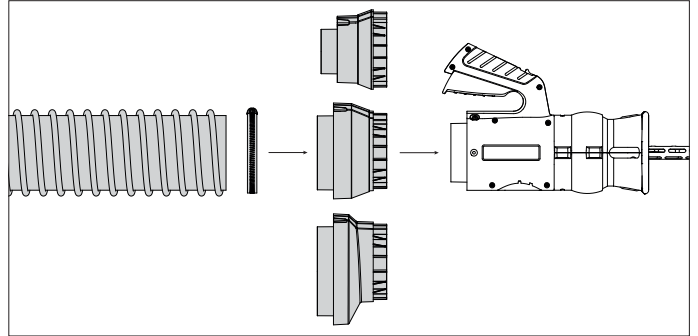

Fig. 4.5 Mounting a hose using a reducer/increaser
- Mount the extraction hose to the reducer/increaser and fasten with a hose clamp. Refer to fig. 4.5.